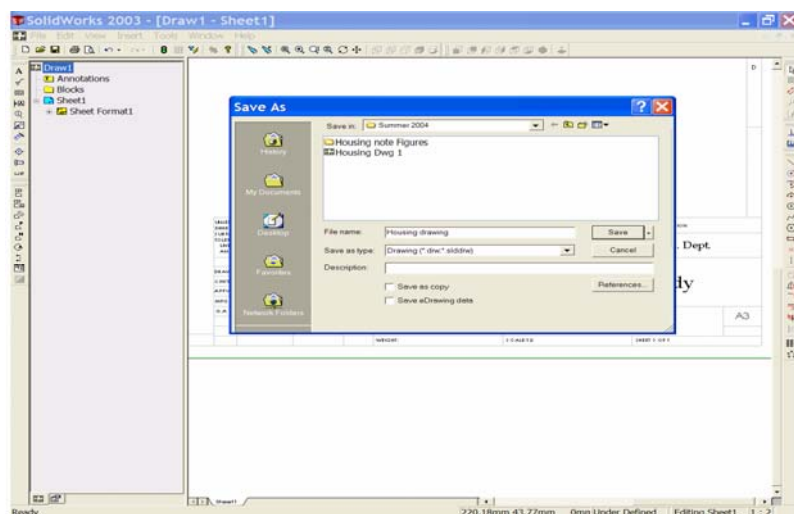

Figure 8
12. From 'File' select 'save as' and save your work. See Figure 8.